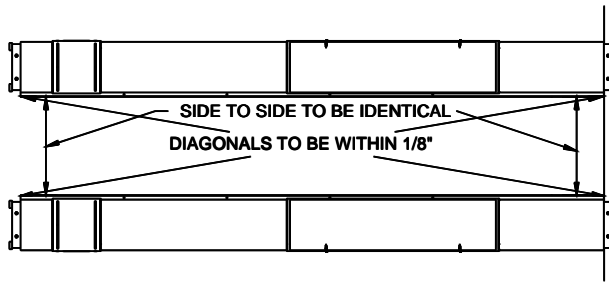

Fig 6 – Final Runway Positioning
- 9) Check the layout of the lift in the bay. **(This is the last opportunity to reposition the lift. If there is any question about where the front column anchors or power unit are going to end up, complete steps 21 - 24 first and come back to this step).** Adjust the position of the runways so the distance from power side jack rail to idler side jack rail is the same at the front and rear and the diagonal measurements from the front tip of one rail to the rear tip of the opposite rail are within 1/4", Fig 6.
- 28) Recheck the four measurements from **Fig 6**.